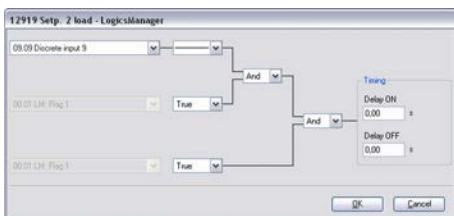

Fig. 164: LogicsManager function "Setp. 2 load"
3. Configure the LogicsManager function "Setp. 2 load" as shown in ( Fig. 164) to enable load setpoint 2 if discrete input [DI 09] is energized.